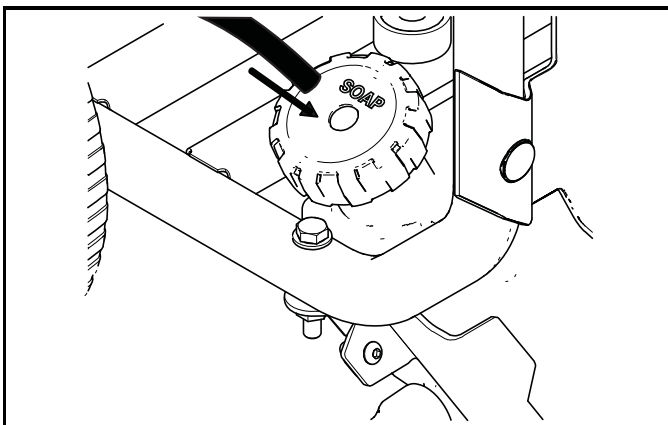

Figure 4-23. Install Siphoning Tube
4. Insert filter on end of siphoning tube through the hole in the chemical tank cap (Figure 4-23).